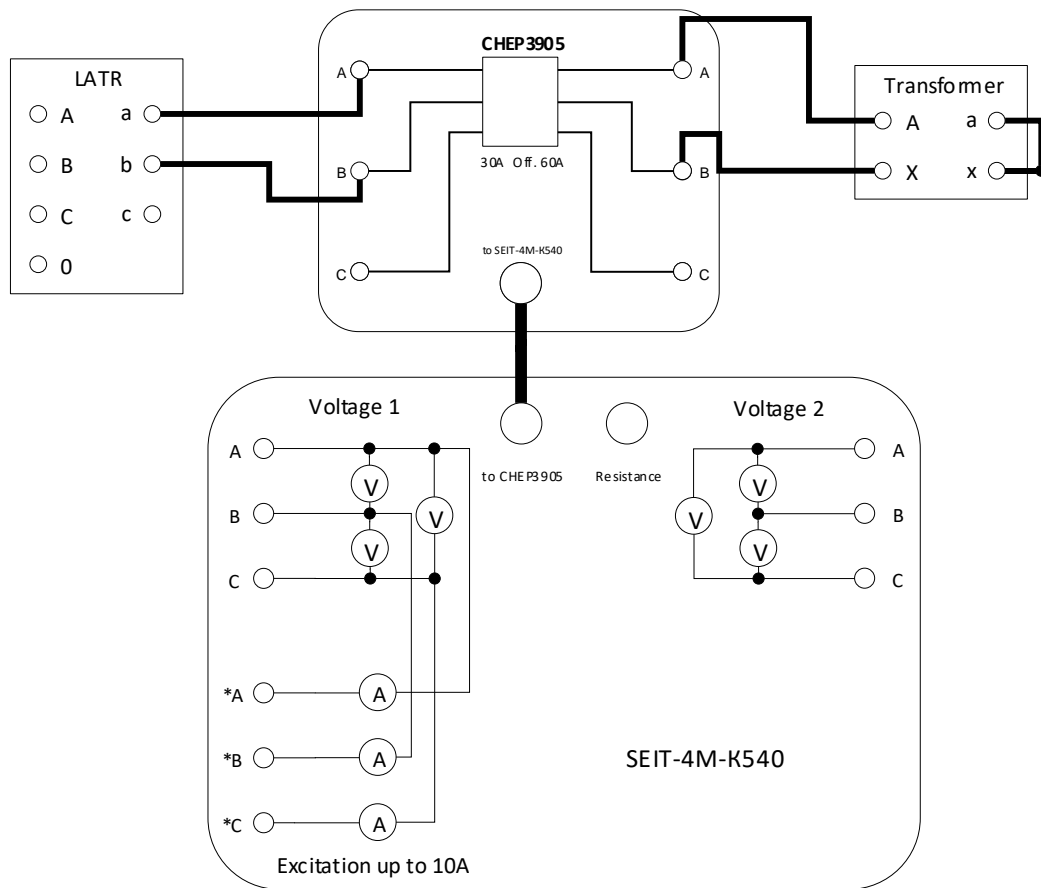

Fig. 21. Connection Circuit for a Single-Phase Short Circuit Test using CTU
5.4.4. When using the CTU in a single-phase short circuit test, assemble the circuit shown in Fig.21.